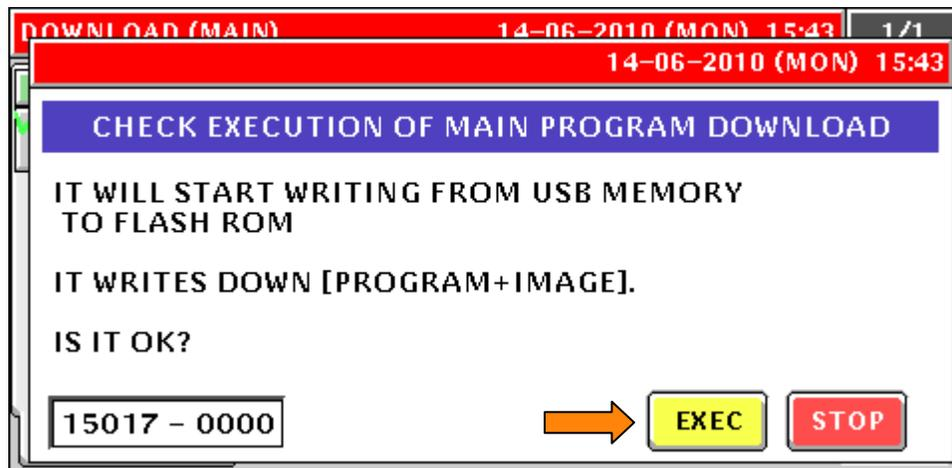

Figure 1.7. Press **EXEC** to Begin Firmware Download
19. Press **EXEC** to begin the firmware download. See Figure 1.7.